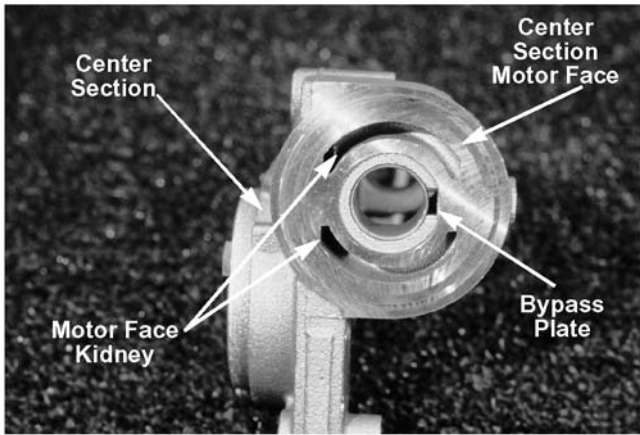

**Figure 6-146**
- F. Pump face kidney (each kidney port has a passage through the center section to the motor face kidneys See Figure 6-146).